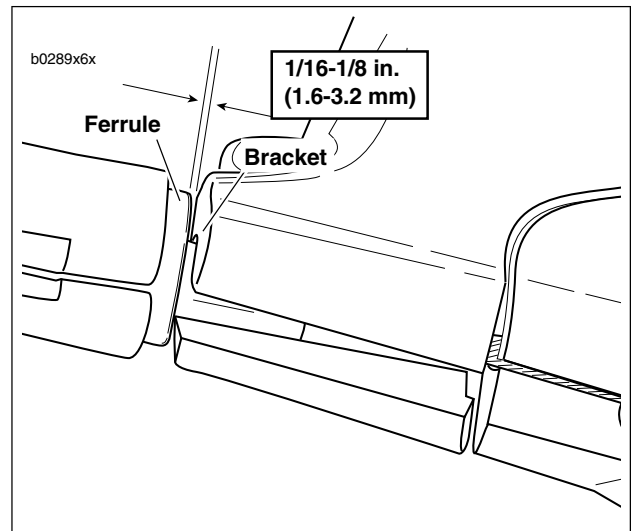

Figure 1-24. Adjusting Clutch Free Play
- a. See Figure 1-24. Pull ferrule (end of cable housing) away from bracket. Gap between ferrule and bracket should be 1/16-1/8 in. (1.6-3.2 mm).